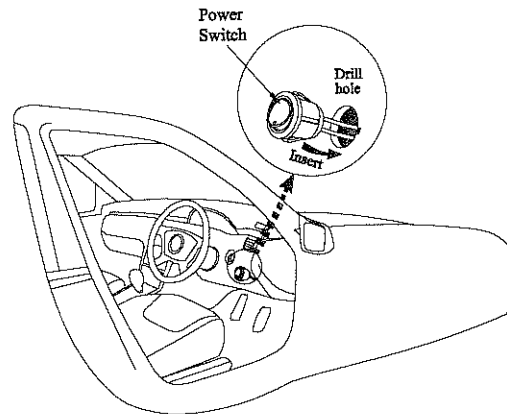

Fig. 24
1. Locate a suitable position and drill a hole for the power switch according to it's size. (Fig.24)